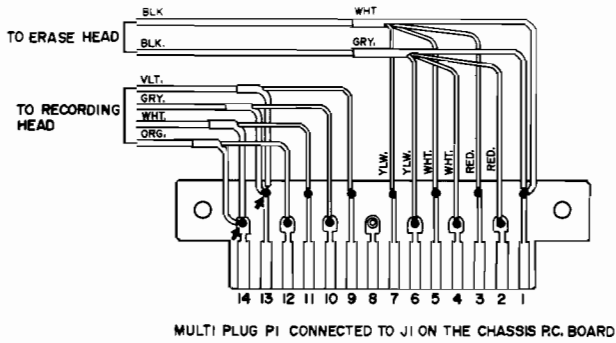
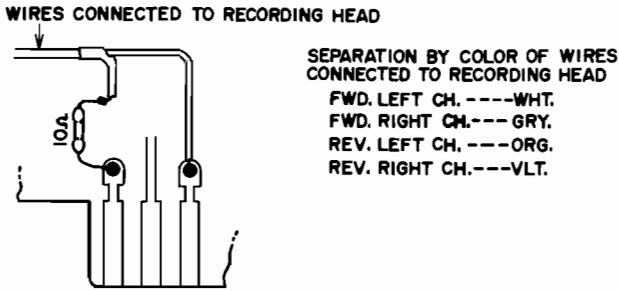

Fig. 33
Fig. 34
- As shown in Figs. 33 and 35, disconnect the ground side wires connected to multi plug recording head, and connect a 10Ω fixed resistor in series between the ground wires as shown in Fig. 34.